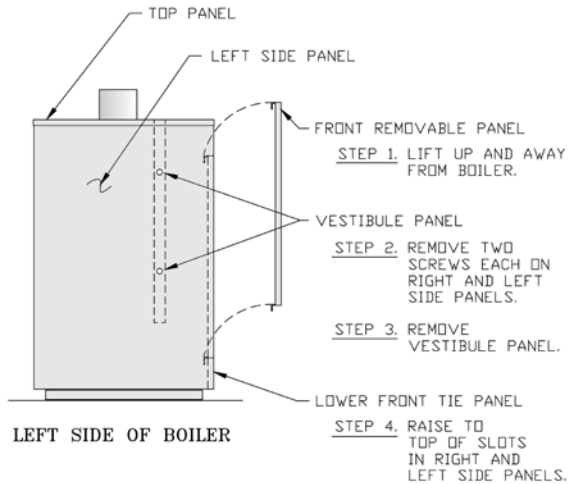

Figure 19: Jacket Front Panel and Vestibule Panel Removal
G. Inspect Boiler Flue Passages for blockage or soot accumulation. See Figures 19 and 20.